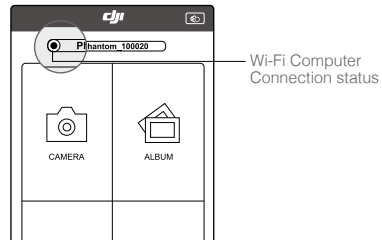

Figure 46
- (4) Run the DJI VISION App on your mobile device. When the Wi-Fi Computer Connection status on the App main menu goes green, the connection is good (Figure46).